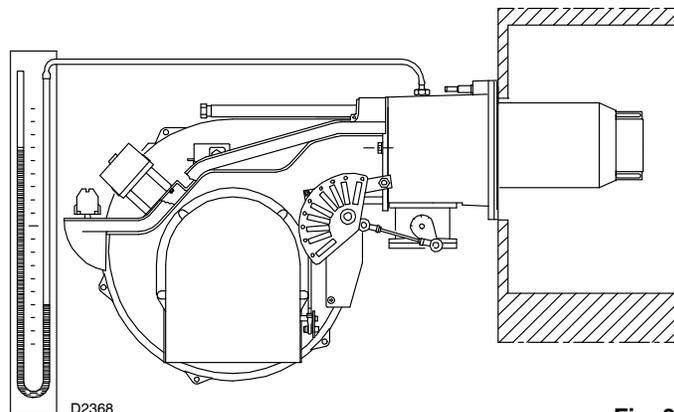

Fig. 31
- Purge the air from the gas line. Fit a U-type manometer (Fig. 31) to the gas pressure test point on the sleeve. The manometer readings are used to calculate the MAX. burner power using the Tab. I.